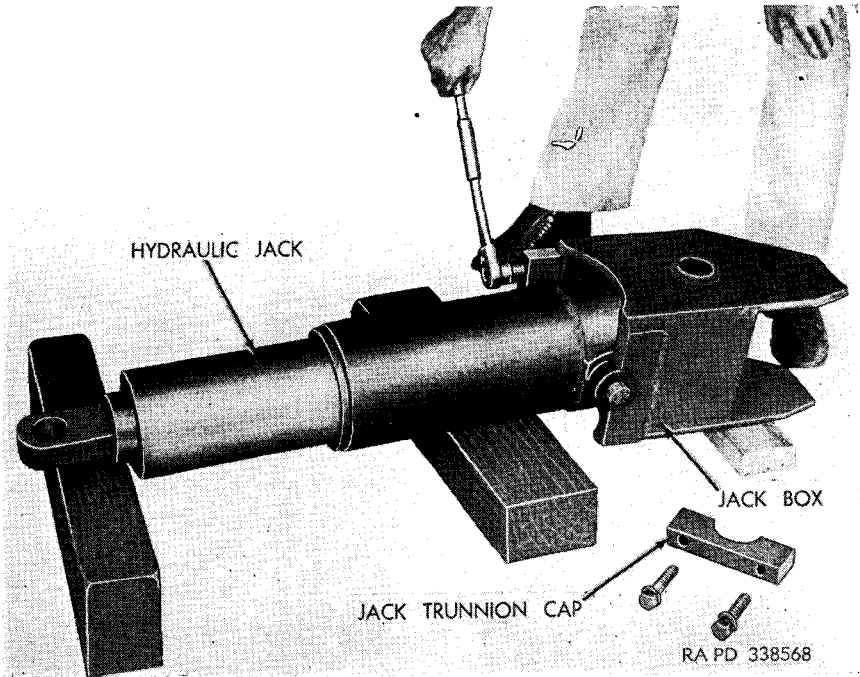
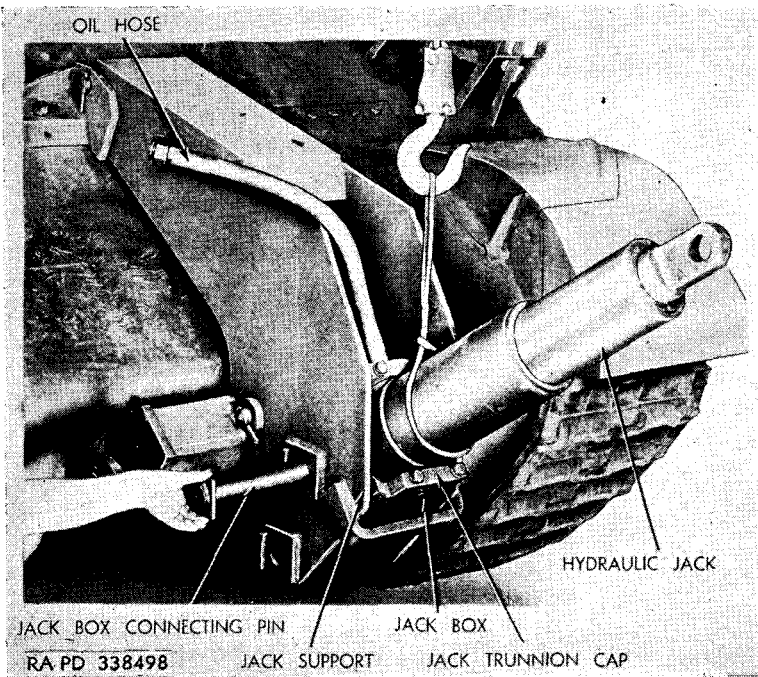
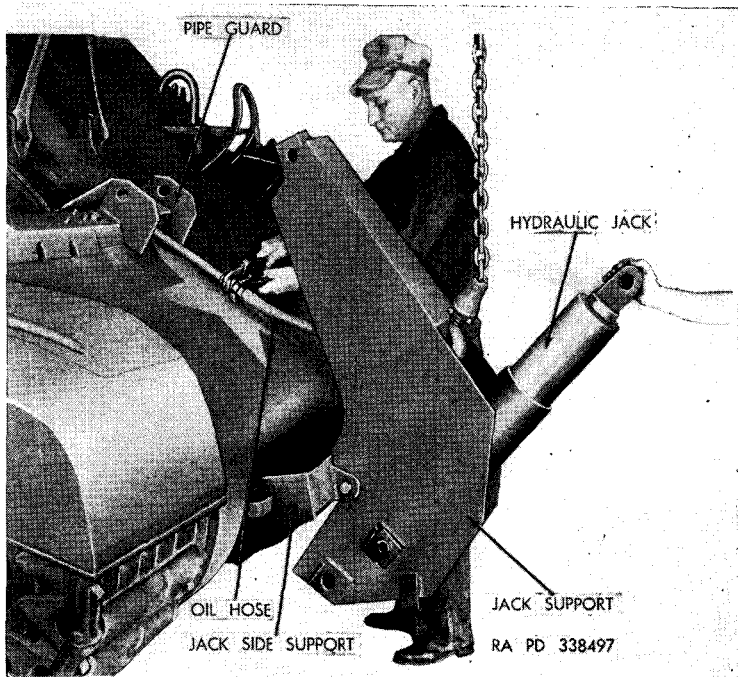

Figure 37. Assembling jack box to jack—bulldozer M1A1.
Figure 38. Installing hydraulic jack and jack box to jack support—bulldozer M1A1.
Figure 39. Coupling the hydraulic jack oil hose—bulldozer M1A1.
f. INSTALL HYDRAULIC JACK AND JACK BOX (BULLDOZER M1A1). Attach jack box to hydraulic jack with trunnion caps, each held with two bolts (fig. 37). Install jack and jack box in jack support and insert connecting pin (fig. 38). Lock connecting pin with cotter pin. Support the weight of the jack support with a hoist and temporarily remove pin connecting jack support to pipe guard (fig. 39). Lower the jack support and guide the jack so that it stands vertically; couple the jack oil hose to the external piping. Raise the jack support in position and connect the support to the pipe guard with the connecting pin.